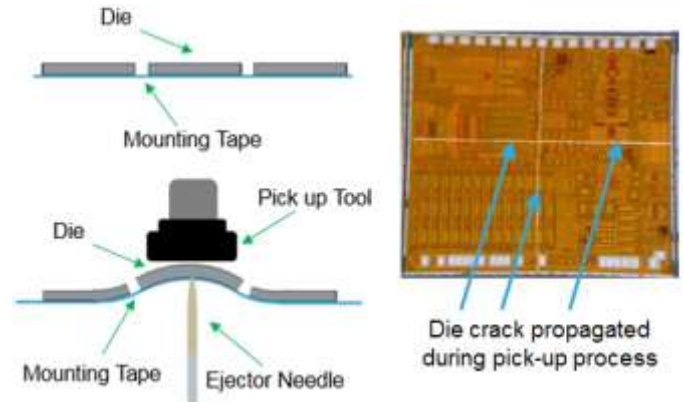

Fig. 2. Die crack encountered during pick-up process at die attach station.
- Die crack issues on thin die applications (with 50  $\mu\text{m}$  to 120  $\mu\text{m}$  die thickness) propagated during pick-up process of diebonder machine, as illustrated in Fig. 2